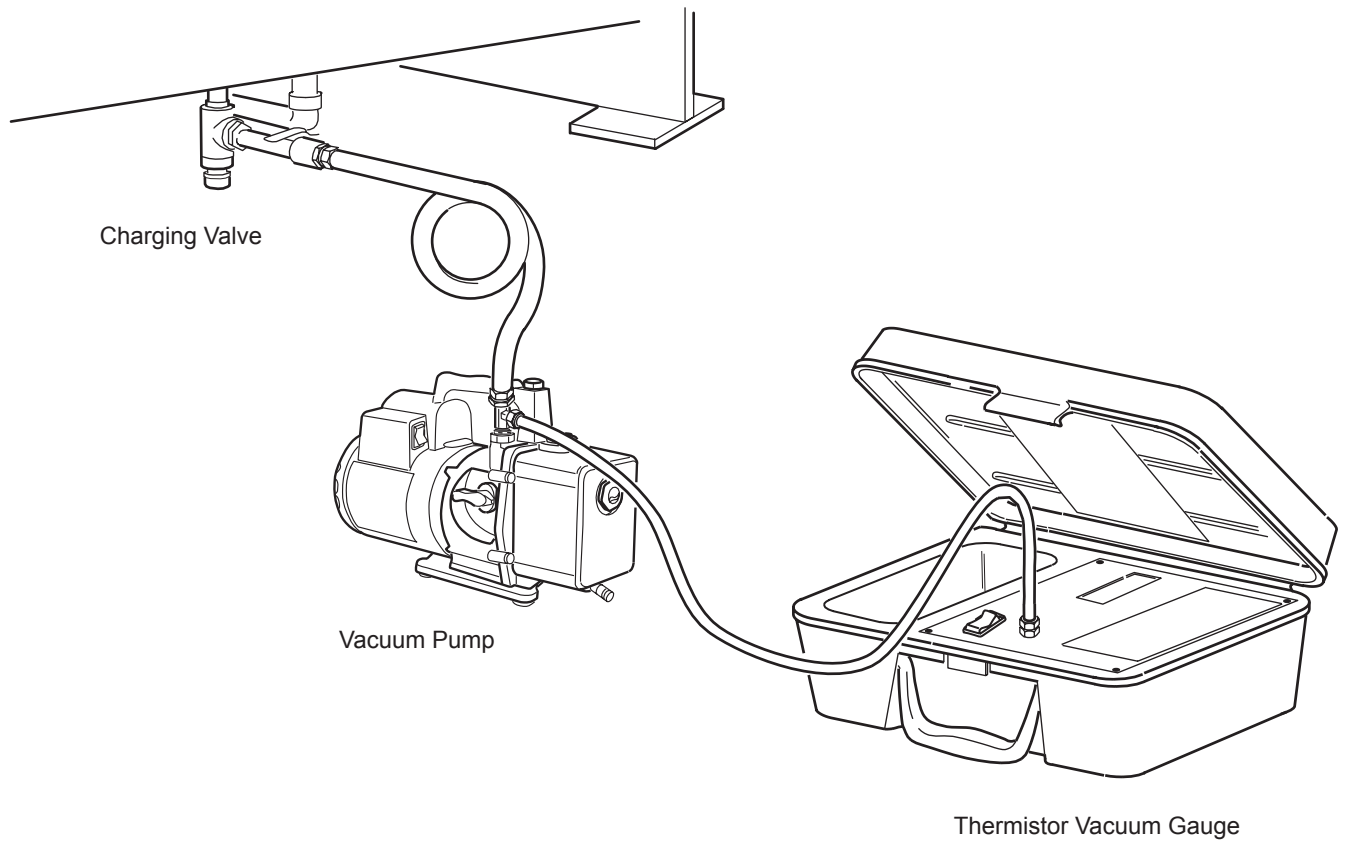

FIG. 24 – EVACUATION OF THE CHILLER
- Connect a high capacity vacuum pump, with indicator, to the system charging valve as shown in Figure 24 and start the pump. (See “Vacuum Dehydration”.)